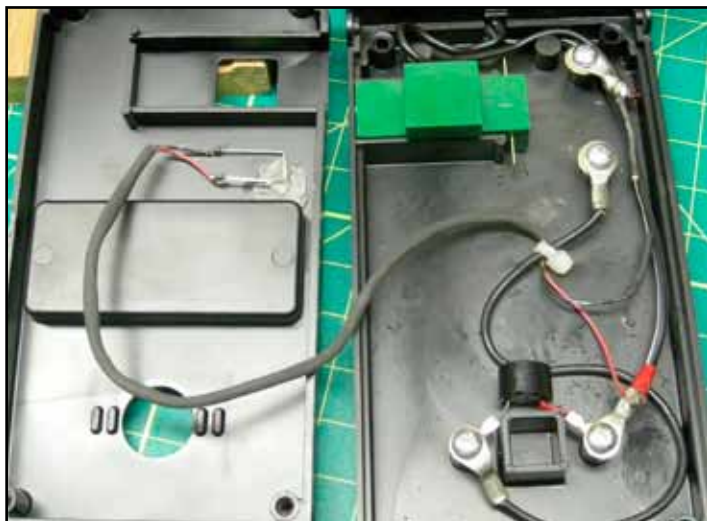

Figure 5: The modified wiring of the controller.
24) The completed modification should appear as shown in Figure 5.
26) Install the four (4) Phillips head screws in the bottom of the controller.